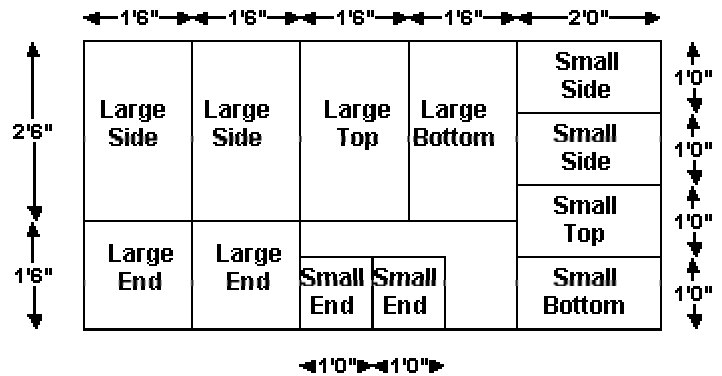

Figure 1
1. Cut the plywood according to Figure 1. Be sure all cuts are straight and square.